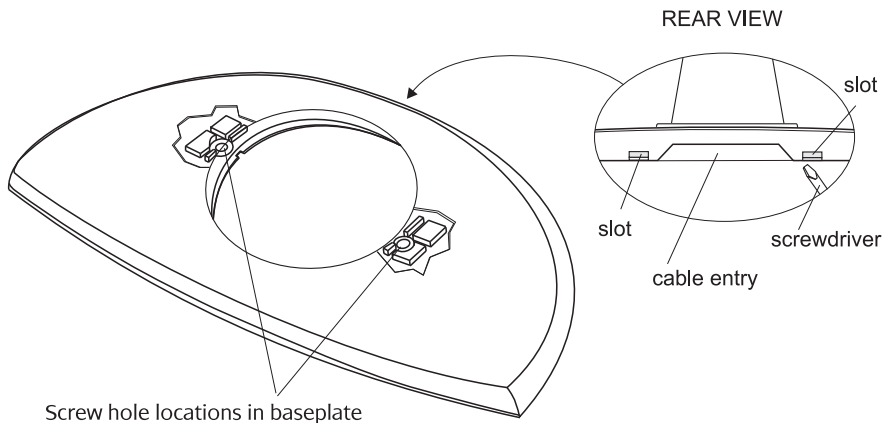

Figure 3. Mounting screw hole locations
1. Using a small flat-blade screwdriver, pry the cover from the baseplate at the two slots at the back of the base. See Figure 3.